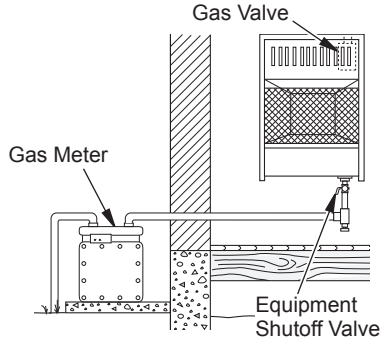
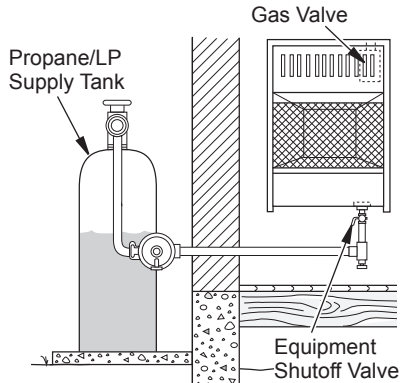

Figure 18 - Natural Gas Supply
Figure 19 - Propane/LP Fuel Supply
3. Check all joints from gas meter (natural gas installations, see Figure 18) or from propane/LP tank (propane/LP gas installations, see Figure 19) to equipment shutoff valve. Apply a noncorrosive leak detection fluid to all joints. If bubbles form, there is a leak.
4. Check all joints from equipment shutoff valve to control valve (see Figure 18 or 19). Apply a noncorrosive leak detection fluid to all joints. Bubbles forming show a leak.
4. Wait five (5) minutes to clear out any air. Then smell for gas, including near the floor. If you smell gas, STOP! Follow "B" in the safety information above. If you do not smell gas, go to the next step.
5. Turn control knob counterclockwise  to the PILOT position. Press in control knob for five (5) seconds (see Figure 19).